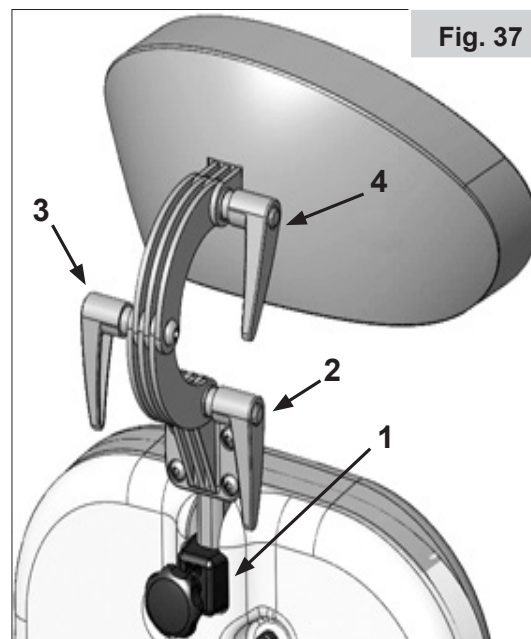

Fig. 37
The headrest can be raised, (1) and moved both forwards and backwards, (2-3-4). To do this, simply loosen the relevant release levers, adjust the headrest to the desired position, and tighten them again, (Fig. 37).